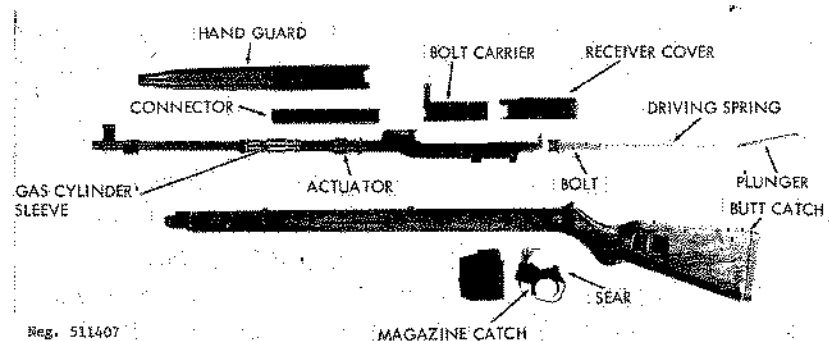

Figure 107. Vz52 field stripped.
(1) Clear the weapon (para 119g), but do not replace the magazine. Set the safety on safe by pressing it to the rear.
(2) Force the receiver cover (fig 107) forward as far as possible; press in on the plunger protruding from the rear of the
(8) Hold the gas cylinder sleeve (fig 107) in place and force the connector as far to the rear as possible until it can be lifted away from the gas cylinder sleeve. Pull the connector forward out of the actuator (fig 107). The gas cylinder sleeve can be moved to the rear for cleaning.
a. The Vz52 and Vz52/57 rifles are identical in their functioning. The rifles are gas operated; however, they employ an unusual concentric gas cylinder that surrounds the barrel. The gas mechanism is composed of a bearing mounted on the barrel, with a gas port drilled through it into the barrel. A sliding gas cylinder sleeve is positioned over the bearing and is connected to the actuator by means of a sheet-steel connector (fig 107).
b. When the rifle is loaded and cocked, pressure on the trigger releases the hammer, which impacts against the firing pin and fires the rifle. The propellant gases drive the bullet through the barrel; after the bullet passes the gas port, some of the gases are tapped off and expand between the rear of the barrel bearing and the gas cylinder sleeve. The sleeve is forced to the rear, and this motion is transmitted through the connector to the actuator. The actuator, by means of projections that pass through the sides of the receiver, forces the bolt carrier rearward. This movement of the carrier compresses the driving spring and rocks the hammer to the rear. As the carrier continues rearward, cams on the inner sides of the carrier mate with the lugs on the bolt and lift the front end of the bolt out of its locking recess in the receiver. When the bolt is completely unlocked, it and the carrier travel to the rear as one unit. The actuator, connector, and gas cylinder sleeve are returned forward by a spring pressing against the actuator (fig 107).